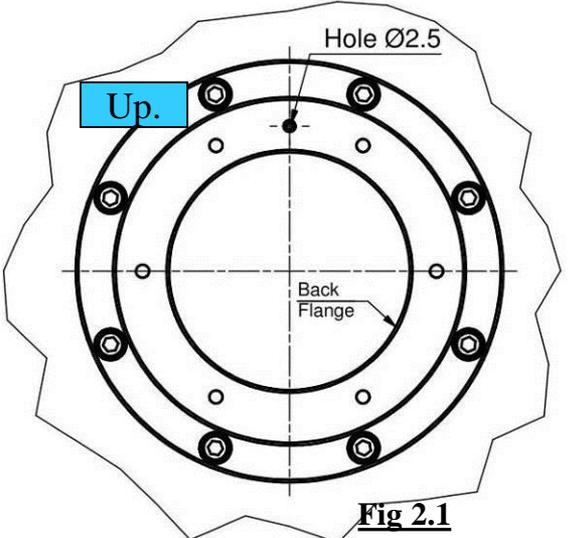
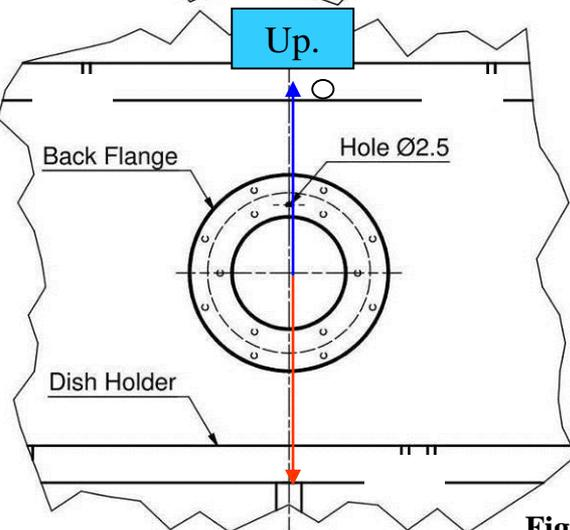
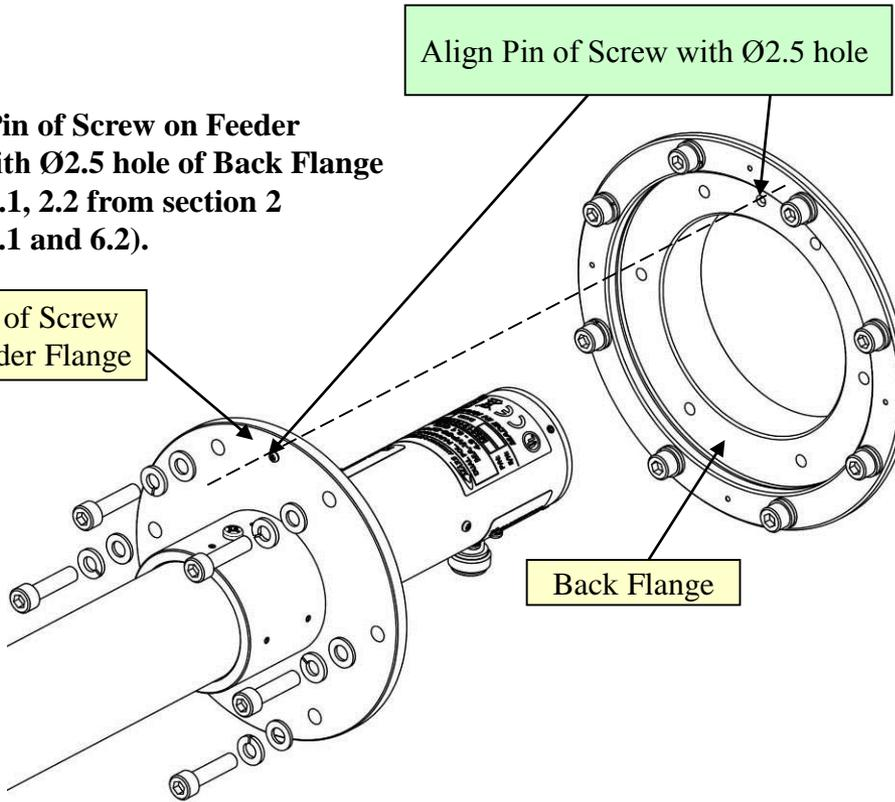

Fig 2.1
Fig 2.2
Fig 6.1
The $\text{Ø}2.5$ hole of Back Flange should be positioned upwards (to upper side of antenna) see Fig 2.1 (Front View) and Fig 2.2. (Rear View).
1. Align Pin of Screw on Feeder Flange with $\text{Ø}2.5$ hole of Back Flange (see Fig 2.1, 2.2 from section 2 and Fig 6.1 and 6.2).
2. Insert the Feeder into the hole at the center of the dish and fasten to back Flange. Use the screws and washers from Kit #2 as shows Fig 6.1 - 6.3. Tighten the screws.